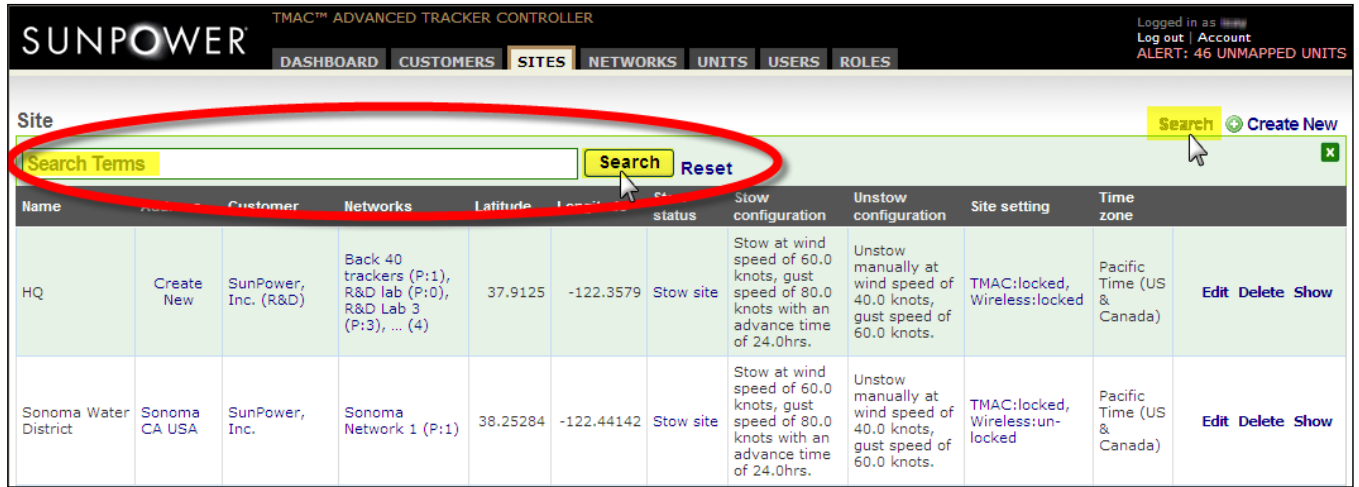

Fig. B9
- Look for the site name under the **Name** column. Use the scroll bar and page selector at the bottom of the page as necessary. Alternately, you can filter the list by using the search function. Click **Search** and enter any part of the site name (for example, *Rancho*) in the **Search Terms** field and then click *Search* (Fig. B9).